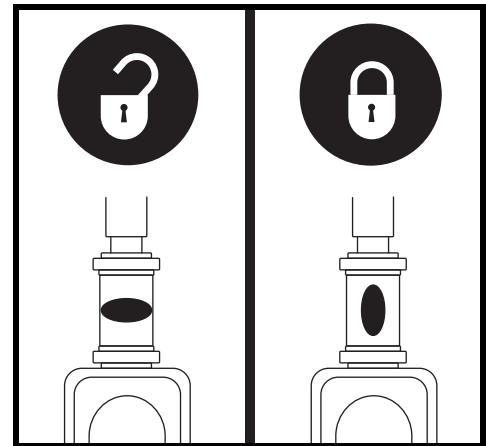

Figure 25. Tiller Lock Knob
2. Lock the tiller in the straight ahead position by pushing the tiller lock knob in and turning it clockwise 90°. **See figure 25.** The front wheel must face forward in order to lock the tiller.
1. Lock the tiller in the straight ahead position by pushing the tiller lock knob in and turning it clockwise 90°. **See figure 25.** The front wheel must face forward in order to lock the tiller.
6. Unlock the tiller by turning the tiller lock knob 90° counterclockwise. See figure 25.